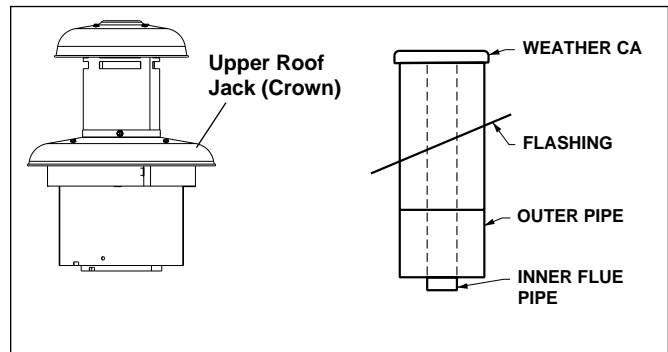

Figure 7.
3. Roof Jack (less upper Roof Jack crown), with weather cap to be installed as described on Figure 7 of these instructions.
1. Transit-mode weather cap must be removed and the upper Roof Jack crown installed per Figures 7 and 8. Set aside the three screws removed with the cap for use when securing the Roof Jack crown.